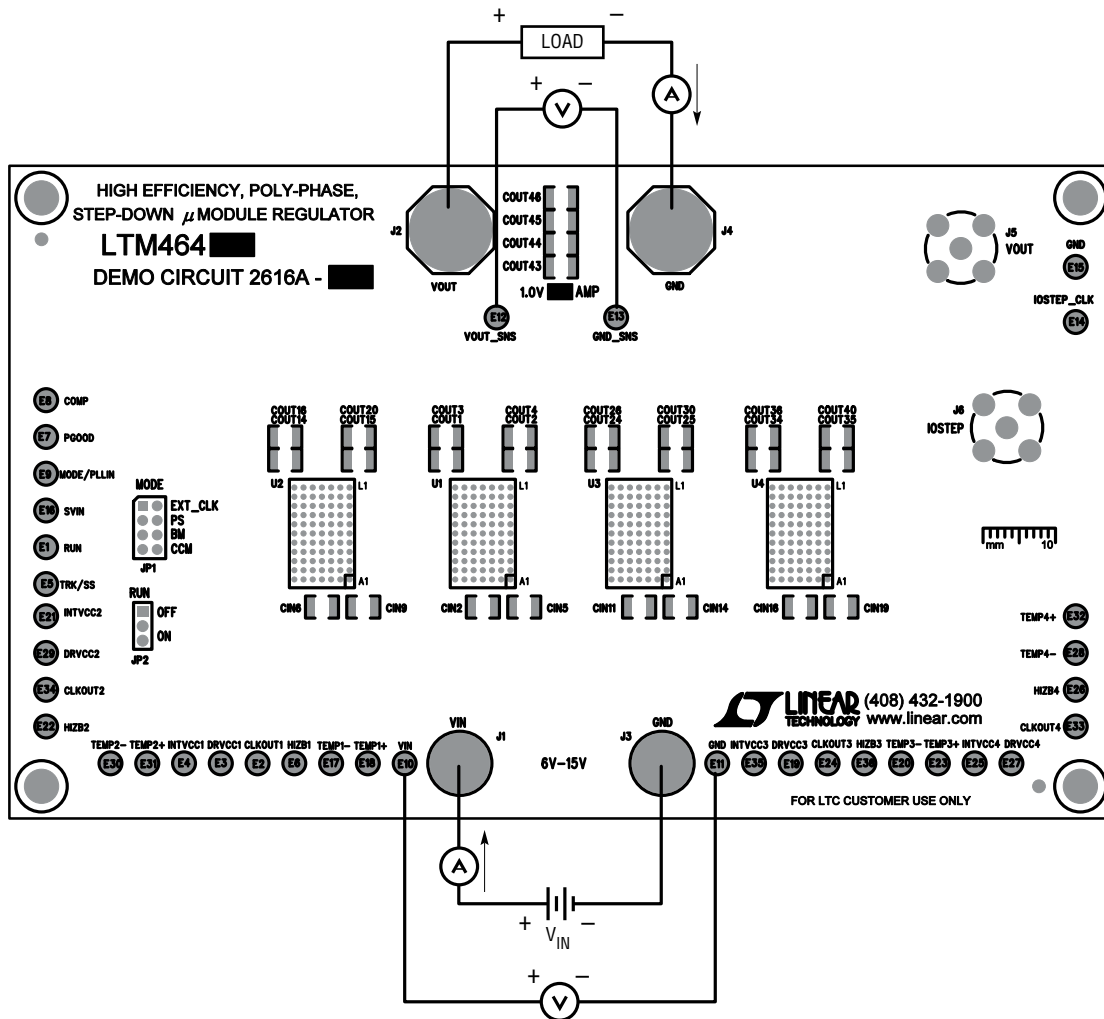

Figure 1. Measurement Setup of DC2616A-A
Demonstration circuit DC2616A-A is an easy way to evaluate the performance of polyphase operation of the LTM4645EY. Due to the high input/output current, the user should select the proper input supply/load/cable which can sustain the full load operation. Please refer to Figure 1 for proper measurement equipment setup and follow the procedure below:
- With power off, connect the input power supply, load and meters as shown in Figure 1. Preset the load to 0A and V_{IN} supply to 12V.